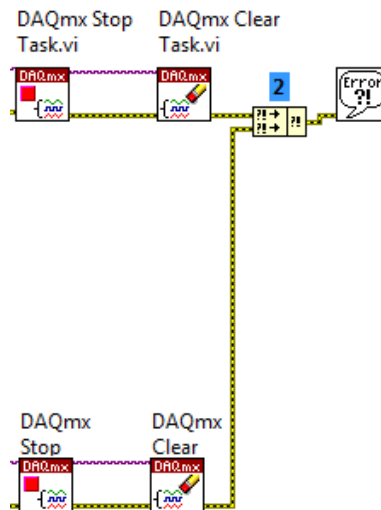

Figure 34. All your error wires are combines so the Simple Error Handler can display the errors to the user.
19. Wire the error wire from the output of the bottom DAQmx Clear Task VI into the new input of the Merge Errors function. Your code should look like Figure 34.